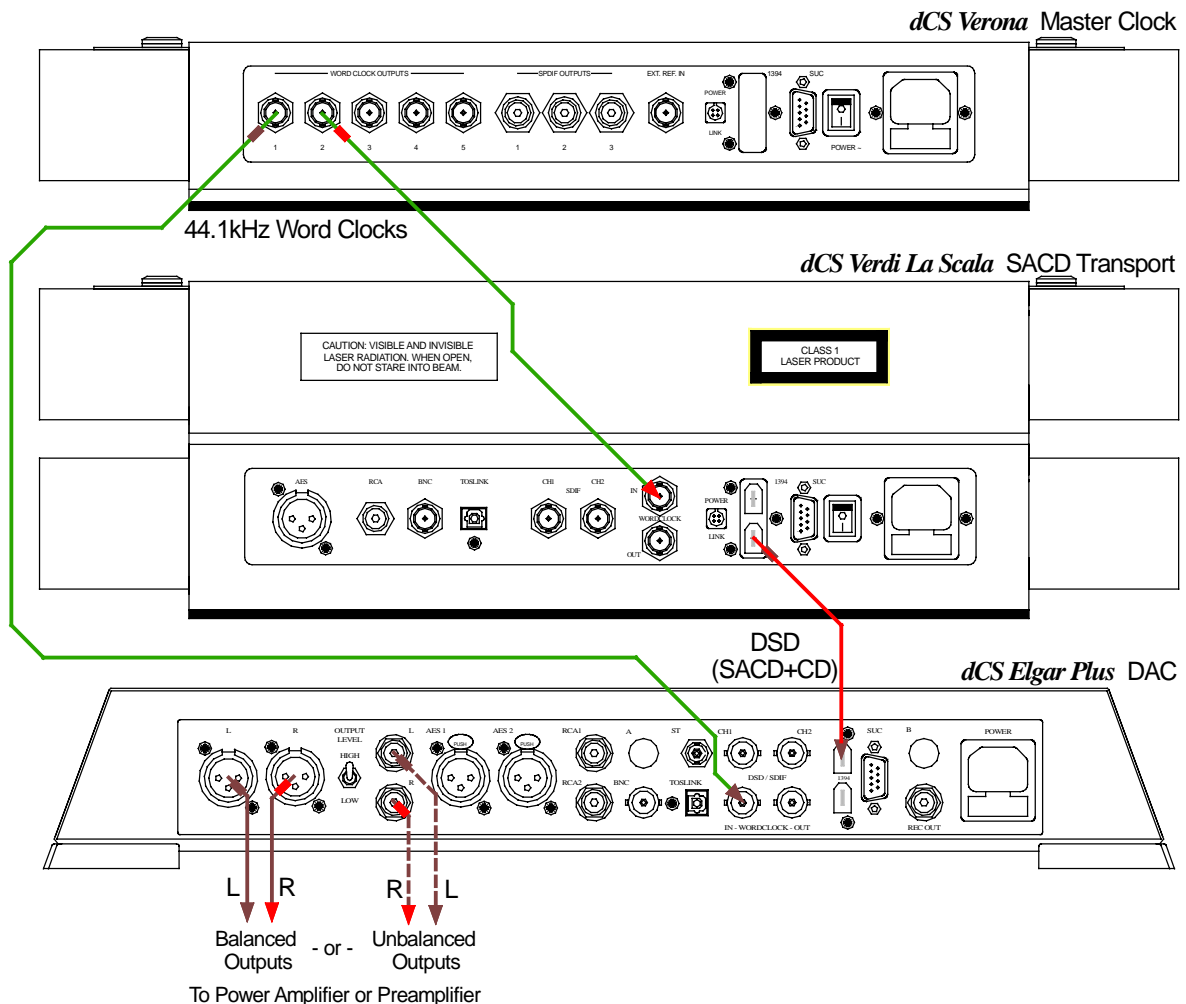

Figure 1 – Using *Verona* to clock a *La Scala* and an *Elgar Plus*
- do this:** Connect up as shown in **Figure 1**.